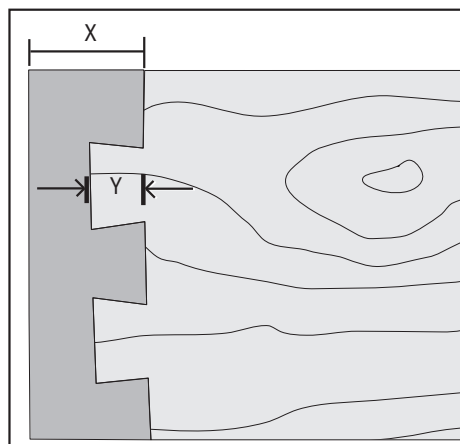

Fig. 21
- * What is the tail height (the distance "Y" in Fig. 21) on the dovetail joints you will make?
- * How thick is your pinboard (the distance "X" in Fig. 21)?